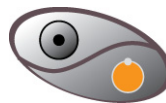

Figure 4-10: System is in Standby
16. When the treatment is complete, select the Standby button on the Front Display or Handpiece to place the system in Standby. The Standby/Ready button turns yellow (see **Figure 4-10**).